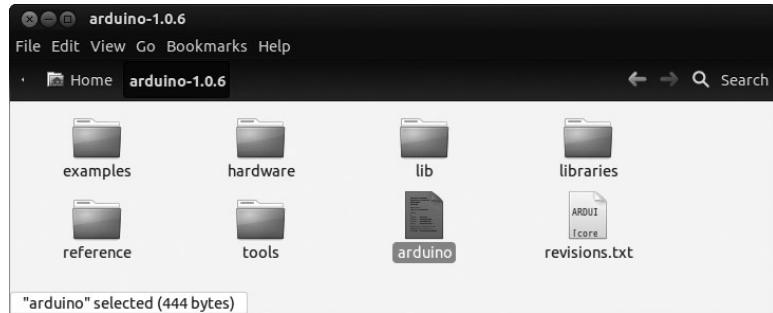

Figure 1-25: Your Arduino IDE folder with the arduino file selected
1. Connect your Arduino to your PC with the USB cable. At this point you want to run the Arduino IDE, so locate the *arduino-1.0.6* folder you copied earlier and double-click the *arduino* file that's selected in Figure 1-25.